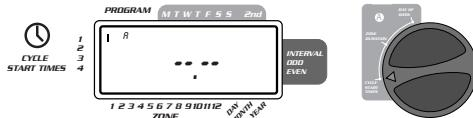

FIGURE 5: LCD Display with Start Time
- The way you set the cycle start time is the same for both programs. Turn the rotary dial to the **CYCLE START TIMES** position in the program that you want to set. The display will show an A or B depending on which program you have selected. The display will show _____ : _____ and a blinking cursor in **CYCLE START 1** location [See Figure 5].